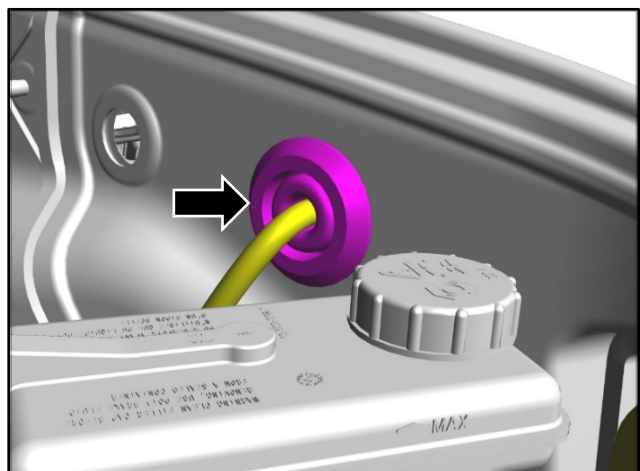

Figure 26
15. Install the rubber grommet (refer to Figure 26).